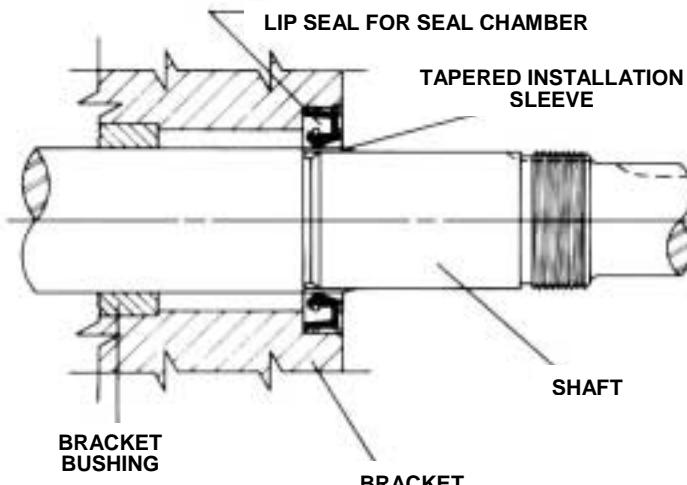

FIGURE 7
2. Install lip seal in bracket. Refer to Figure 7.